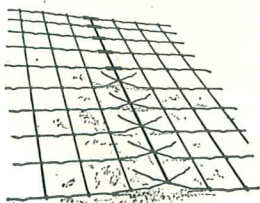

Figure 8
**Splicing:** To splice two sections of fence fabric, first pull both sections together (cut-ends of line wires overlapping) until the first stay wire in either section lies alongside the first stay wire in the other section. Now take the overlapping ends of the line wires (see Figure 8) and wrap them tightly together with pliers or a splicing tool. If the overlapping cut-ends of line wires on the fence sections to be spliced are not long enough for effective wrapping it may be necessary to cut out one stay.